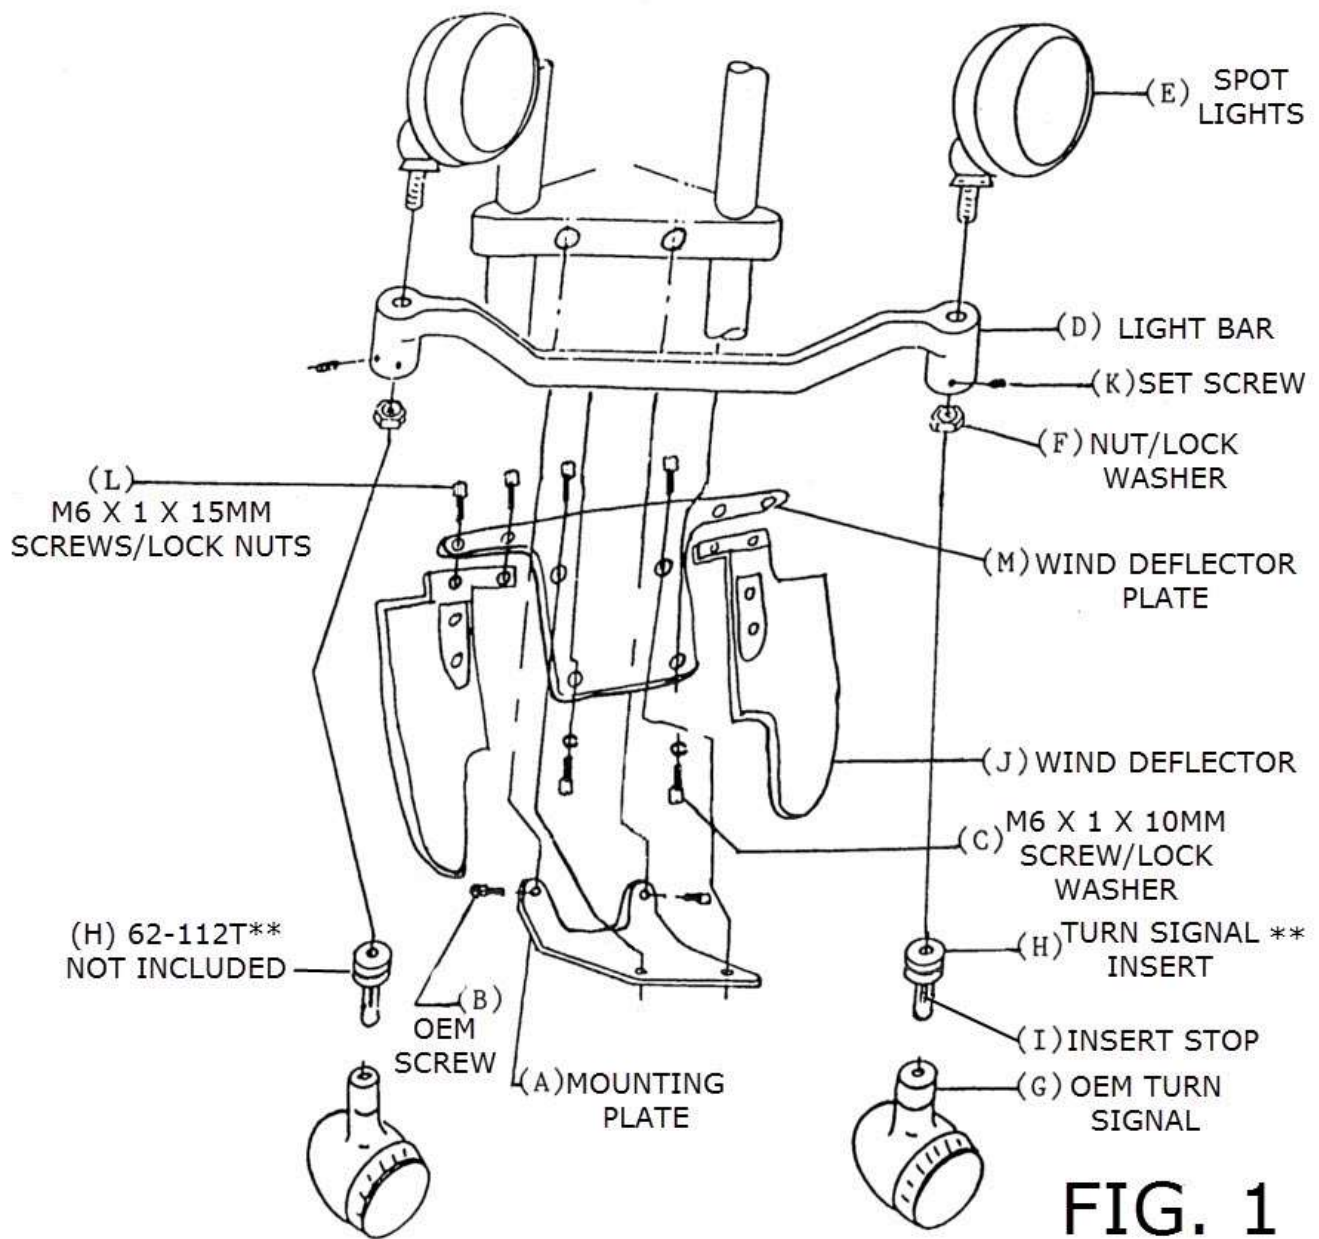
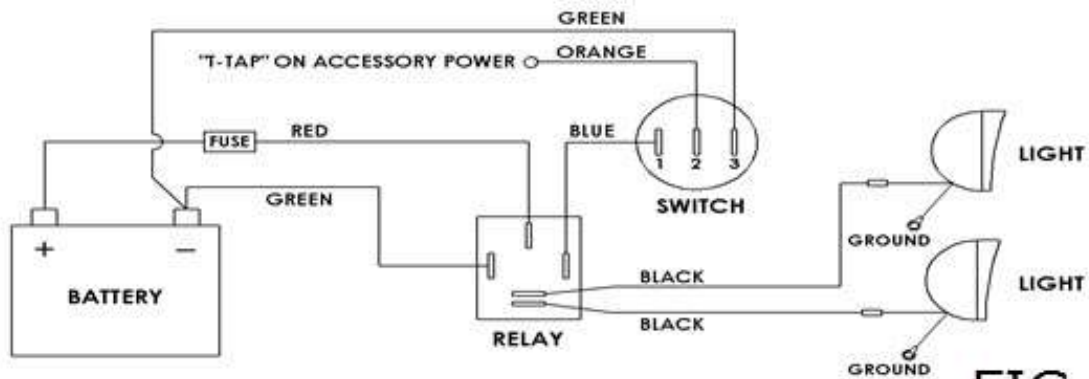

FIG. 1
FIG. 2
7. ON EACH OEM TURN SIGNAL (G) FOLLOW THE WIRES INTO THE HEADLIGHT HOUSING & DISCONNECT THEM (UNPLUG THE BULLET CONNECTORS).
8. USING 6MM ALLEN WRENCH REMOVE THE TWO SOCKET HEAD CAP SCREWS (B) HOLDING THE TURN SIGNAL OEM LIGHT BAR TO FORKS (KEEP SCREWS). SEE FIG. 1.
9. USING 4MM ALLEN WRENCH REMOVE THE WIND DEFLECTORS (J) FROM OEM LIGHT BAR (WILL NOT REUSE THESE SCREWS).
10. USING 8MM WRENCH REMOVE THE TURN SIGNALS (G) FROM THE OEM LIGHT BAR (KEEP SCREWS AND RUBBER).
11. INSTALL THE MOUNTING PLATE (A) TO THE FORKS USING SCREWS THAT WERE REMOVED. SEE FIG. 1.
12. INSTALL OEM WIND DEFLECTORS (J) TO WIND DEFLECTOR PLATE (M) (WITH BEND UP) USING (4) M6 X 1.00 X 15MM SCREWS (L) AND LOCK NUTS WITH LOCK NUTS POINTING DOWN.
13. INSTALL WIND DEFLECTOR PLATE (M) TO MOUNTING PLATE (A) USING (2) 6MM X 1.00 X 15MM SCREWS (L) AND LOCK NUTS WITH LOCK NUTS POINTING DOWN.
14. INSTALL THE SPOT LIGHTS (E) ONTO THE NEW LIGHT BAR (D) USING THE NUTS & LOCK WASHERS (F) PROVIDED WITH THE LIGHTS. POSITION THE LIGHTS TIGHTEN WITH 14MM SOCKET & WRENCH. **NOTE: DO NOT OVER-TIGHTEN**
16. ROUTE THE OEM TURN SIGNAL (G) WIRES & THE SPOT LIGHT (E) WIRE INTO THE LIGHT BAR. YOU MAY HAVE TO CUT OFF OEM BULLET CONNECTORS AND ADD NEW ONES AFTER THEY ARE ROUTED. SEE FIG. 2
17. THE TURN SIGNAL INSERTS – *NOT INCLUDED* (H) WITH OEM TURN SIGNAL (G) NEED TO BE POSITIONED INTO LOWER ENDS OF THE LIGHT BAR (D) & SECURED THEM WITH SET SCREWS.(K) 3 ON EACH SIDE USING A 2MM ALLEN WRENCH.
19. USING THE TWO M6 X 1.00 X 10MM (C) SOCKET HEAD CAP SCREWS & LOCK WASHERS ATTACH LIGHT BAR (D) ONTO THE WIND DEFLECTOR PLATE (M) AND TIGHTEN USING A 5MM ALLEN WRENCH.
20. LOCATE YOUR BIKES BATTERY, FUSE BLOCK AND / OR ACCESSORY TERMINALS AND WIRE ACCORDING TO THE SCHEMATIC FIG 2.